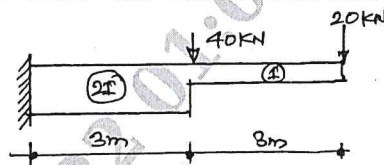

Fig.Q5(a)
- 5 a. Determine the slope and deflection at the free end of a cantilever beam loaded as shown in the Fig.Q5(a). Take $EI = 4 \times 10^5 \text{ kNm}^2$. Use moment area method.